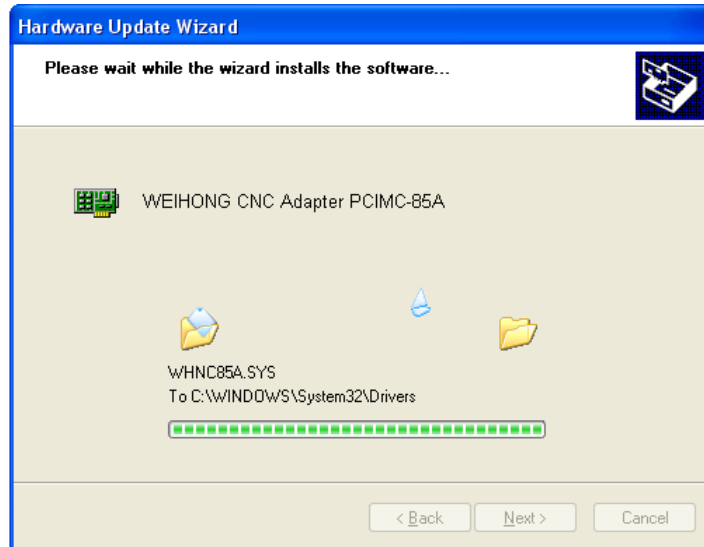

Fig. 1-14 Updating the driver
- 8) Click [OK] to go back, and then click [Next] to start updating the driver software. The progressing picture is shown as Fig. 1-14.